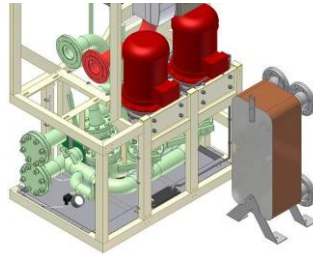

Figure 6.2-6
7. The plate heat exchanger weighs about 87 kg. First pull it carefully to the front edge. Then use a jib crane or a forklift to lift it away (Figure 6.2-6).